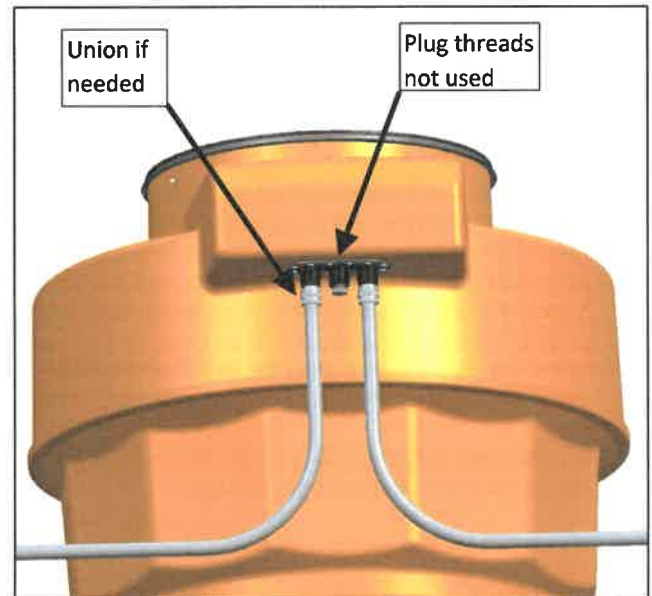

Figure 16
c) Attach conduit to external threads on CEJ Kwik Wire junction box. It may be necessary to use unions to make this attachment. See Figure 16.